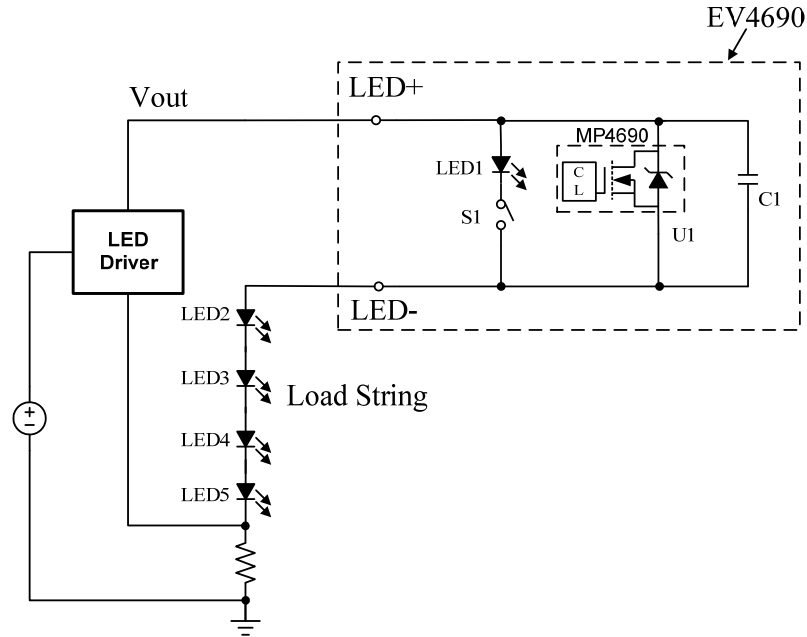

Figure 1. EV4690 Typical Application Circuit
The EV4690 must be used with LED load string as Figure 1 shows. It acts like a LED lamp which can bypass itself when open circuit happens. The EV4690 can be used by inserting it into any place of the original LED load string.
2. Connect the LED+ and LED- terminals of the EV4690 to the Vout of LED driver and anode of LED2, respectively. (Refer to Figure 1)